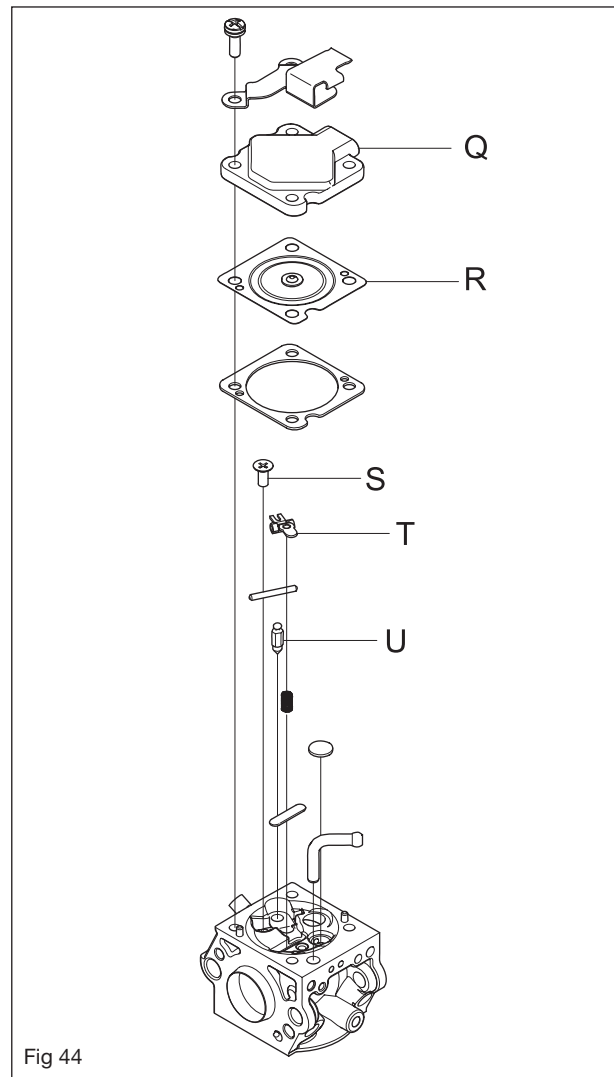

Fig 44
Dismantle the pump cover (Q) above the metering unit and carefully remove the control diaphragm (R) with gasket. See Figure 44.
Loosen the screw (S) and lift out the needle valve (U) with the lever arm (T), the axle and the spring. See Figure 44.
3. That the needle valve (U) and its lever arm (T) are not worn. See Figure 44.